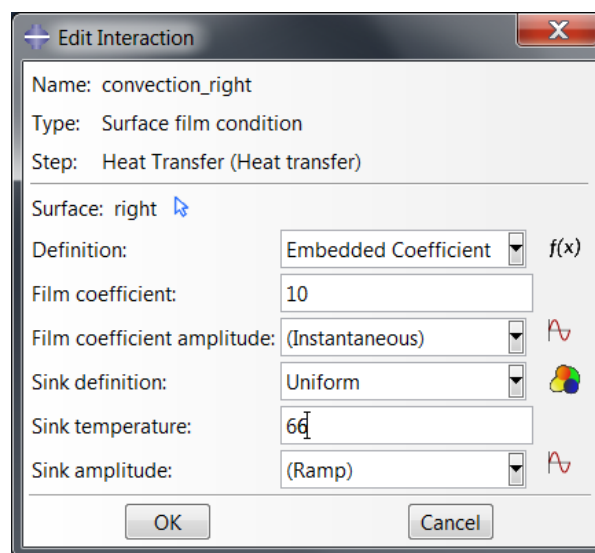

Figure L3b-3. Interaction editor associated with convection
- d. In the interaction editor that appears, enter a value of **10** for the film coefficient and **66** for the sink temperature, and select **Ramp** as the sink amplitude (see Figure L3b-3). Click **OK**.